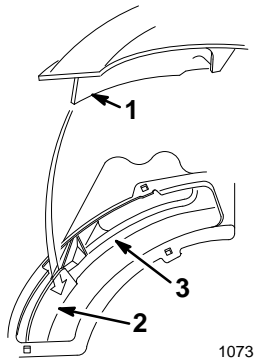

Figure 33
4. Place front corner of the chute baffle into the deck opening. Rotate the chute counterclockwise and push down into the deck opening (Fig. 33).
4. Place the front corner of the mulch plate baffle into deck opening (Fig. 33).
5. Rotate the mulch plate counterclockwise and push it down into deck opening (Fig. 33).